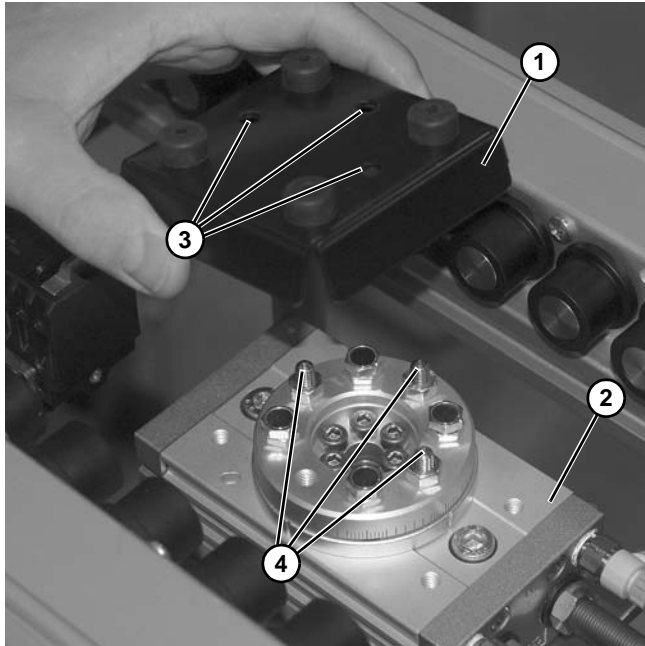
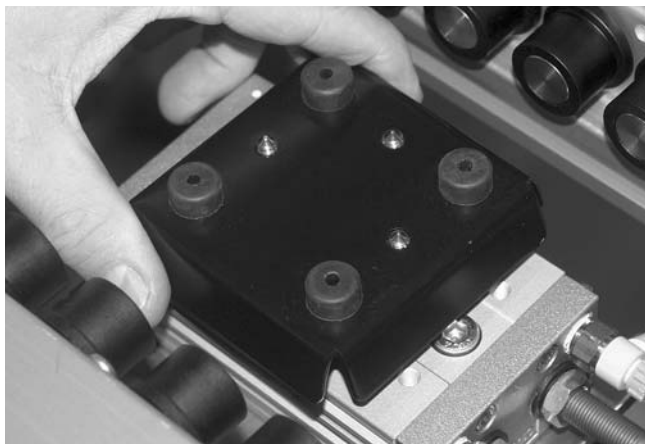

Figure 48
Figure 49
5. Place lift and rotate plate (**Figure 48, item 1**) on lift and rotate assembly (**Figure 48, item 2**). Verify that three holes (**Figure 48, item 3**) in plate line up with three studs (**Figure 48, item 4**) on rotation plate (See **Figure 49**.)